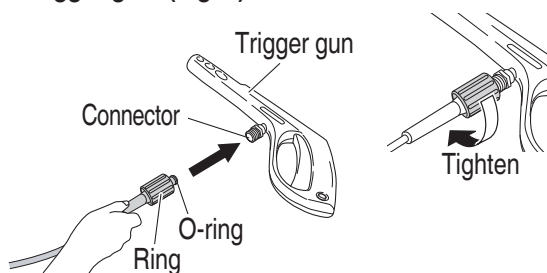

Fig. 7
3. Attach the high-pressure hose to the trigger gun. (Fig. 7)